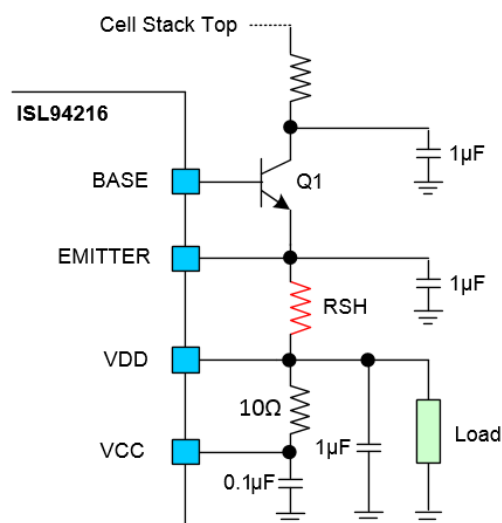

Figure 100. External Power Supply Components
The ISL94216 has an internal regulator that uses an external power transistor to provide regulated voltages for its internal circuits. The output of this regulator can also power other system circuitry, including the microcontroller. See Figure 100 while reviewing sections “VCC Pin (30)” through “BASE Pin (33)” on page 94.
These pins are to be connected per Figure 100 and should not be driven from external sources.